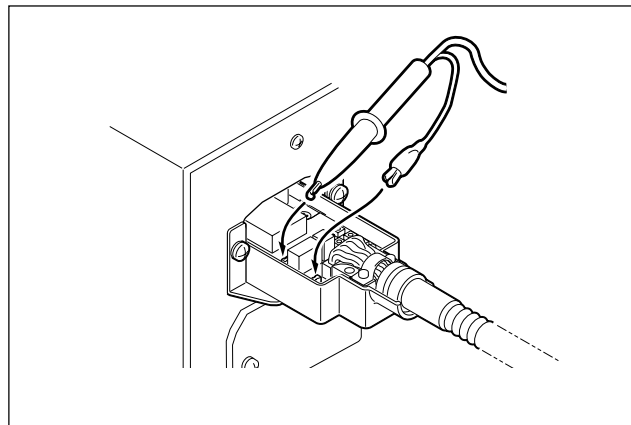

Fig. 4-5
④ Electrical adjustment
- ① Insert the preamplifier into the counter and turn on the counter.
- ② Connect an oscilloscope probe to the PM terminal on the preamplifier board and an earth clip to the connector receptacle screw. (Fig. 4-5)